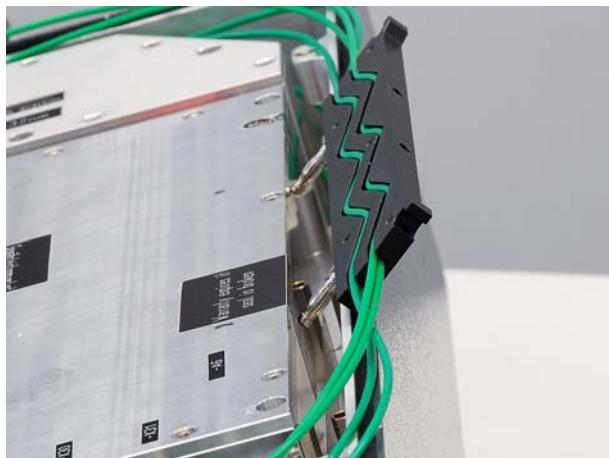

Figure 7.103 Inserting the fibers in the anchor
17. If fitted, insert the fibers into the anchor as shown in Figure 7.103, close the anchor and plug it into the mounts above the resonator module.